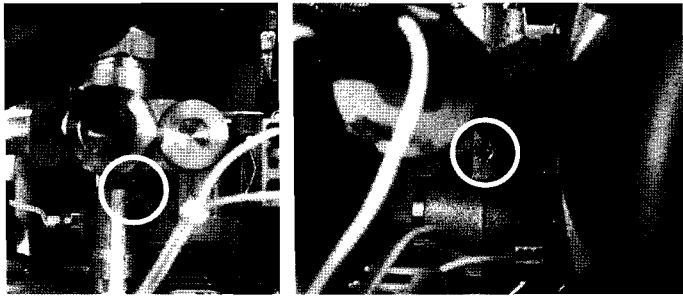

Figure 38
- ☐ Remove the two screws which connect the heat exchanger to hydraulic circuit. (Figure 38)